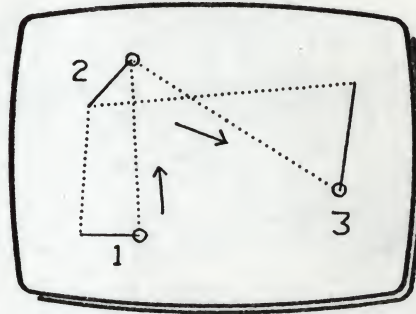

Fig 2
- 3 Rotate Z and move XY to position the nib at (1) in Fig 2.
- 5 Rotate Z and move XY to position the nib (2) in Fig 2.
- 8 Press and hold R and rotate Z to position the nib at (3) in Fig 2. Rotate the nib 180 degrees to achieve the 'twisted ribbon' effect shown.